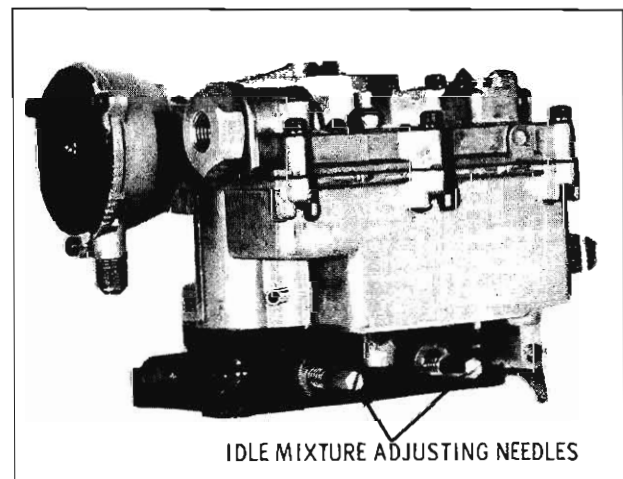

Fig. 4-145 Idle Mixture Adjusting Needles
2. After idle rpm is stabilized, turn in or out each idle mixture adjusting screw until the smoothest possible idle is obtained. (Fig. 4-145)